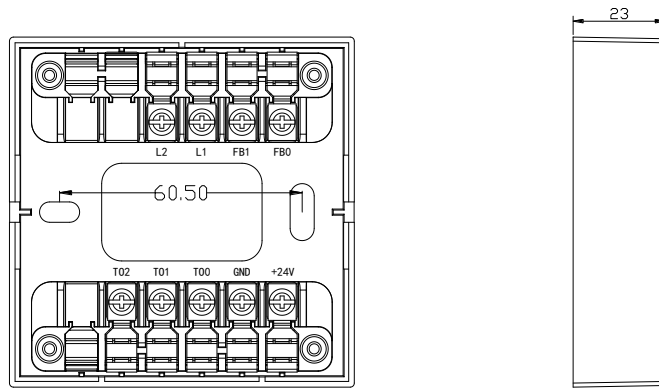

Fig.2 Base of the ATL-956 Module
Terminal description (see Fig.2)
4. Use two M4 screws to fix the module base via the two elliptic screw holes shown in Fig.2 and then insert the main body of the ATL-956 module into the module base and make sure they contact each other well.